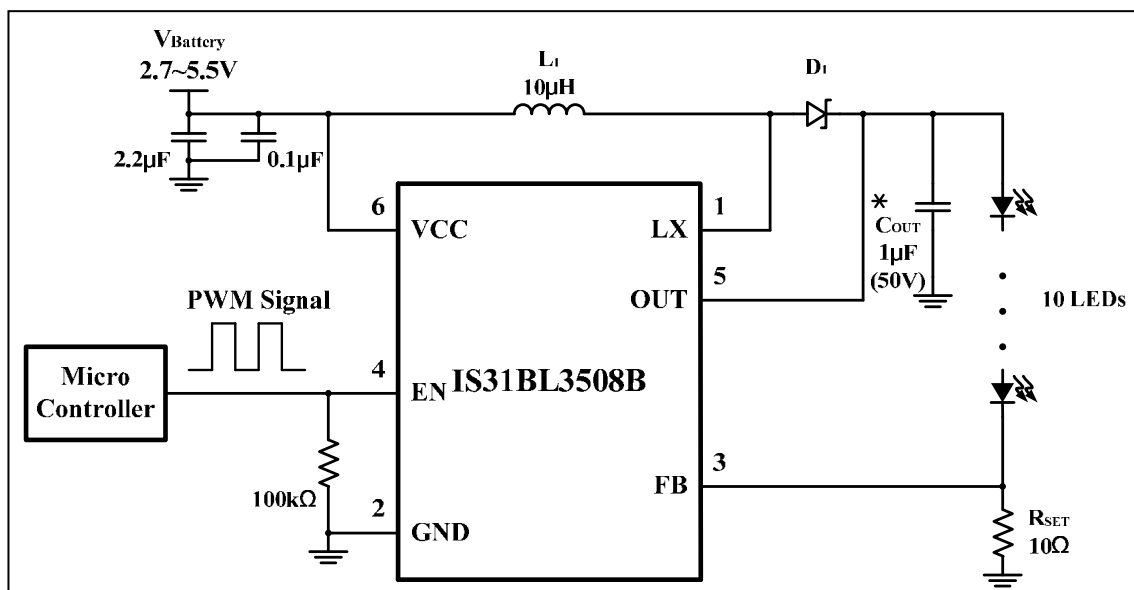

Figure 1 Constant Current White LED Driver Using PWM At The EN Pin To Control Intensity
The choice of the inductor value will affect the performance of the device. Large value inductors will reduce the current ripple in the inductor, thus reducing output voltage ripple. However large value inductors of the same current rating, typically also have larger DC resistance, thus reducing the system efficiency. For example in Figure 1, the loads are 10 WLEDs and output current is 20mA. The maximum input current can reach 300mA. For this application a 4.7 μ H or 10 μ H 400mA inductor is sufficient.
When the IS31BL3508B is used for LED driving applications (Figure 1), the LED current flows through the external feedback resistor R_{SET} to regulate the LED current. The internal feedback regulation point is 0.2V. The maximum LED current may be calculated by the following Equation (1).
The EN pin of the IS31BL3508B can accept a PWM signal to implement LED dimming (Figure 1). LED current may be computed using the following Equation (2).